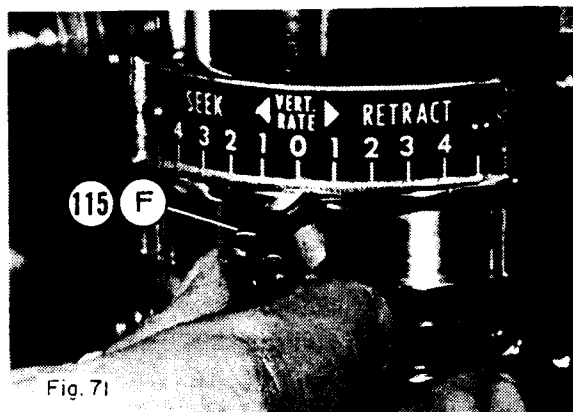

Fig. 71
Before attempting to adjust the Safety Air Release, check out the "Null" position of the Vertical Rate Control Lever (F). (Fig. 71) A complete description of this adjustment is given previously in this section.